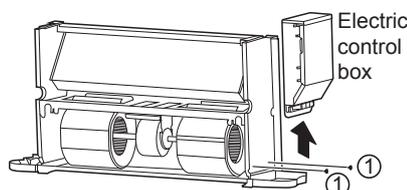

Figure 4-7 Removing the electric control box
- f) As shown in Figure 4-7, remove screws ① *2 to remove the electric control box.